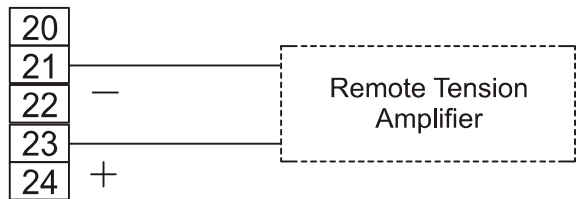

Figure 32 - REMOTE TENSION AMPLIFIER ELECTRICAL CONNECTIONS
- b) The remote tension signal usually comes into the controller via the pre-wired cable connector on the bottom of the enclosure. If the connector is not used, make connections at the terminal strip on the Power board as shown in Figure 32.